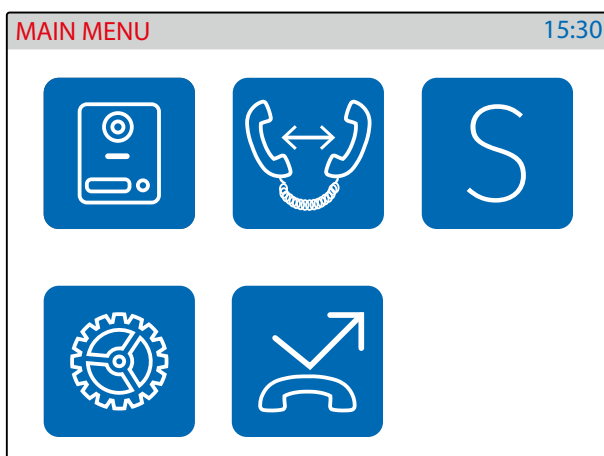
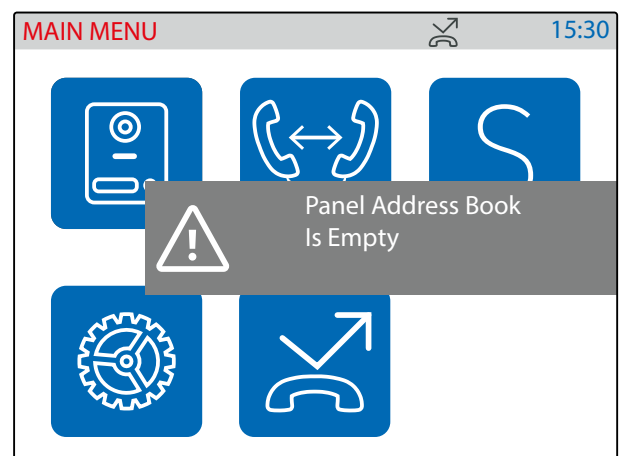
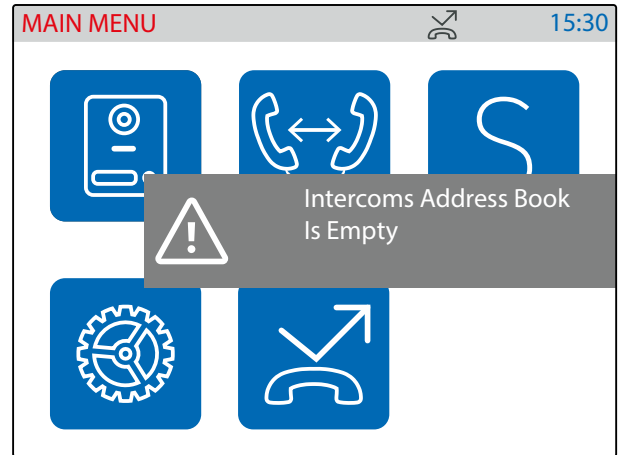
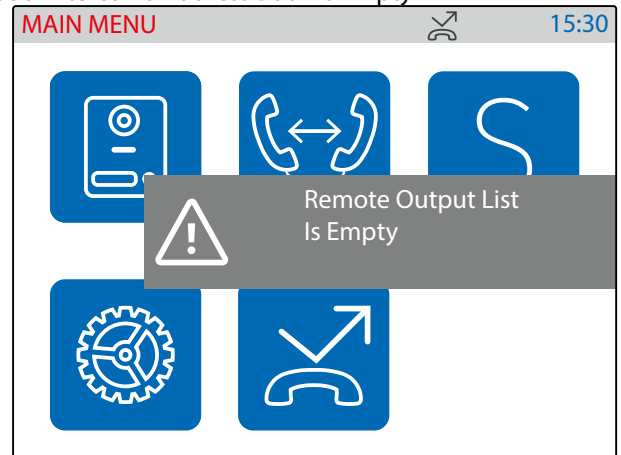

Fig. 53 Main menu
Fig. 54 Panel Address Book is Empty
Fig. 56 Intercoms Address Book is Empty
Fig. 58 Remote Output List Is Empty
If the display is switched off, tap on it to open the main menu (Fig. 53).
- Tap on the door panel icon (Fig. 53)*, if the "panel address book" is empty is shown a warning (Fig. 54).
- Tap on the intercommunicating call icon (Fig. 53)*, if the "panel address book" is empty a warning is shown (Fig. 56).
- Tap on the service icon (Fig. 53)*, if the "Remote Output List" is empty a warning is shown (Fig. 58).
- Activate another service otherwise tap on the go back button to go back to the main menu (Fig. 53).